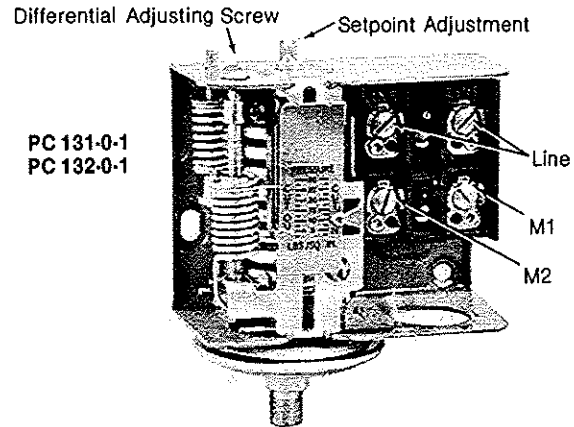

Figure 6
3. PC-131-0-1, PC-132-0-1: The setting of the set-point adjusting screw (Figure 6) establishes the control operating point on a pressure increase and is indicated by the pointer on the right side (cutout) of the graduated scale. Next, the differential adjusting screw should be turned until the desired switch operating point on a pressure decrease is established (as indicated by the scale pointer on the left).